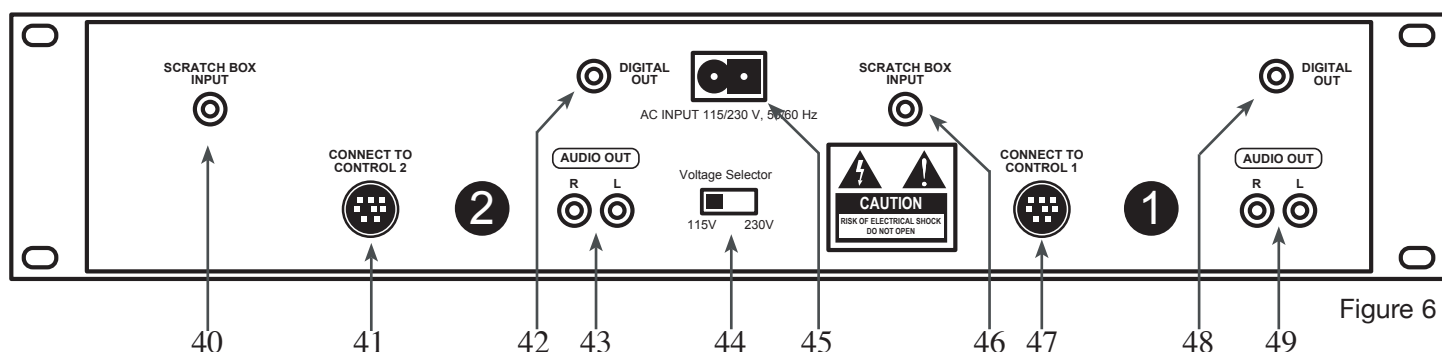

Figure 6
39. DRIVE 2 TRANSPORT TRAY - This tray is used to load and load compact disc in to the drive 2 mechanism. The tray is opened and closed by pressing the DRIVE 2 OPEN/CLOSE BUTTON (38). Never attempt to force the transport tray open or closed when the power is turned off.
D. TRANSPORT UNIT - REAR (FIGURES 6)